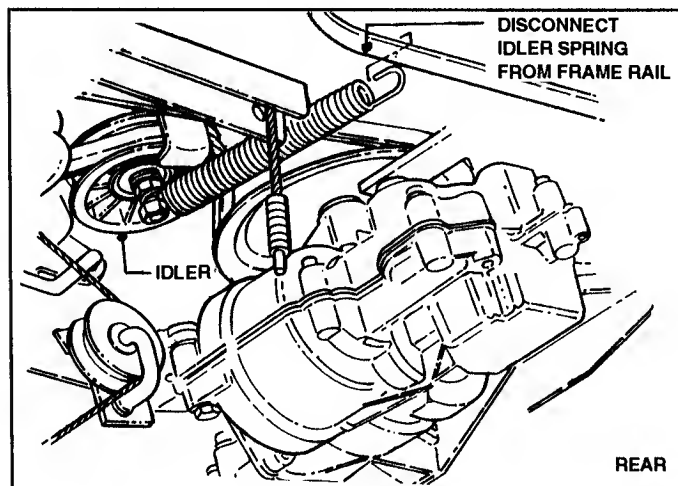

FIGURE 51
5. Disconnect idler pulley spring from frame rail. See Figure 51.